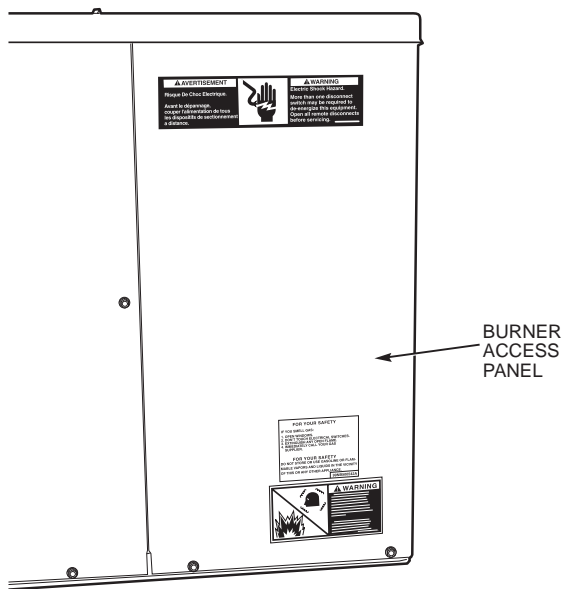

Fig. 26 — Burner Access Panel
1. Remove burner access panel. (See Fig. 26.)
3. Remove burner access panel. (See Fig. 26.)